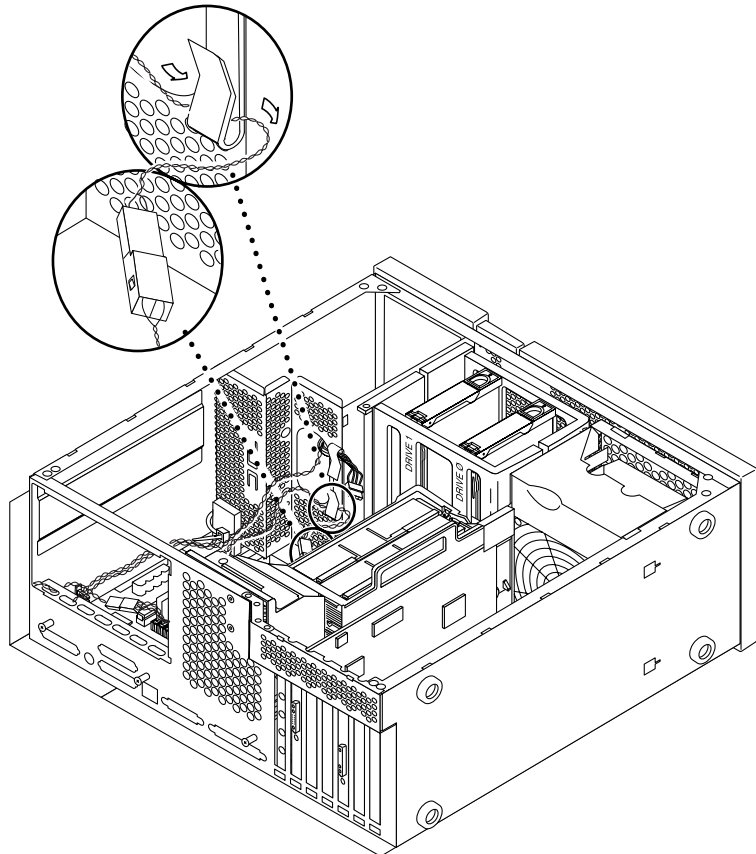

FIGURE 1-8 Routing the Front Fan Power Connector Lead
7. Route the second voltage regulator fan power lead through the systems chassis as shown in FIGURE 1-8.